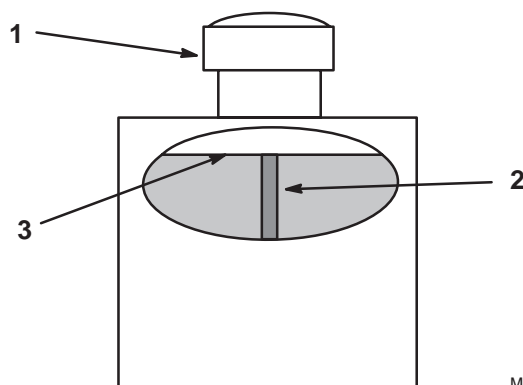

Figure 35
2. Clean area around filler neck of hydraulic tank (Fig. 35).
3. Remove cap from filler neck. Look inside to check if there is fluid in the reservoir. (Fig. 35).
Note: Fluid level should be to the top of the baffle when fluid is warm (Fig. 35).